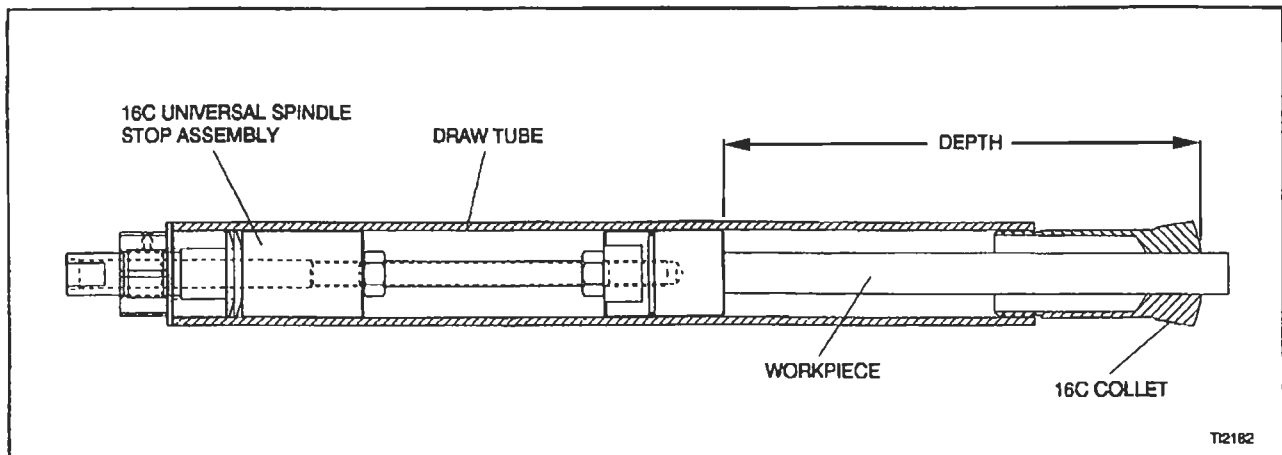

Figure 3 - Spindle Stop Assembled in Draw Tube
6. Loosen jam nut "F" and adjust stop rod "G" to obtain the desired depth. See Figure 3. Retighten jam nut "F".